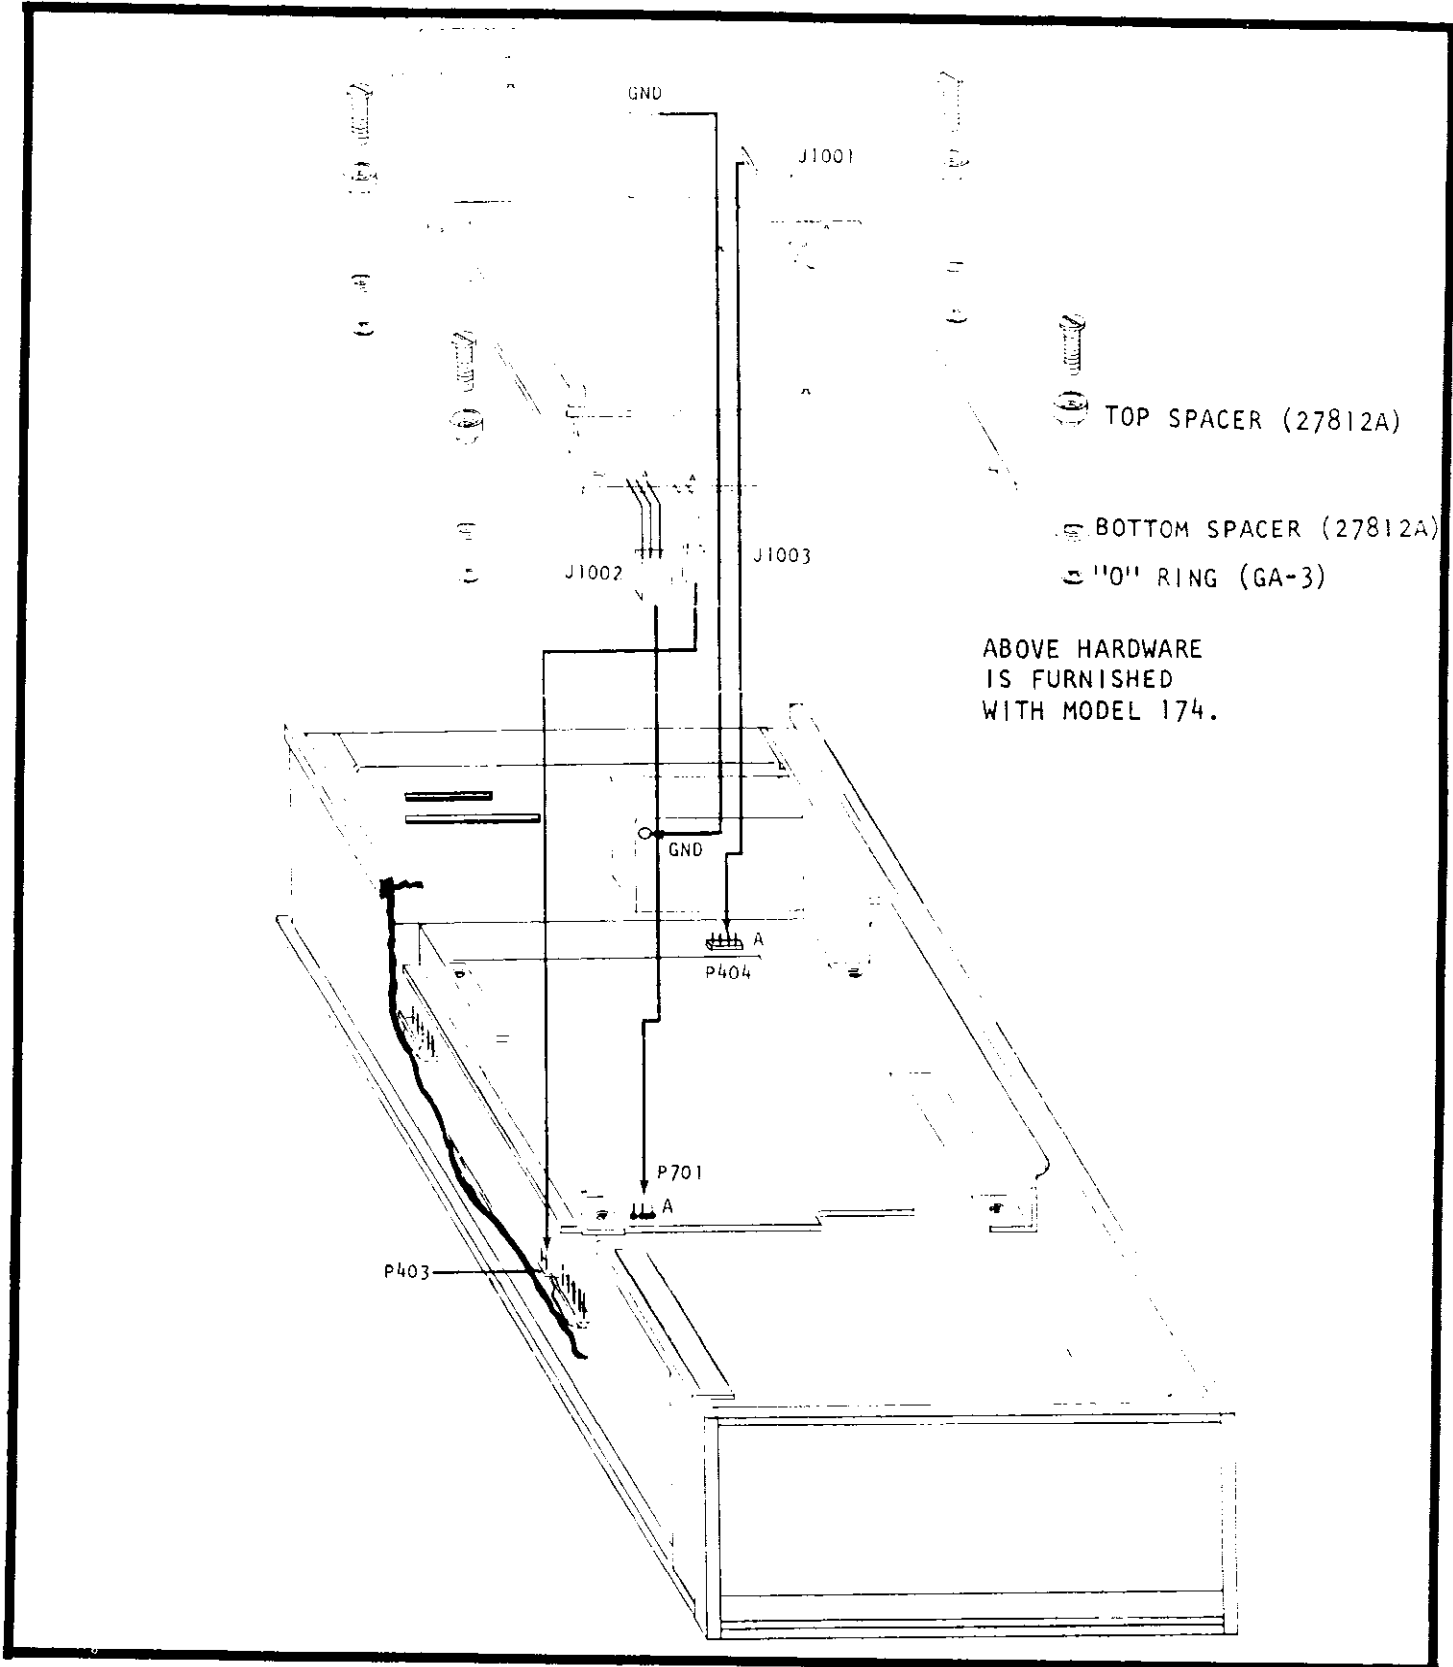

FIGURE 10. Installation of Model 1722 Digital Interface.
6. Reassemble the spacers as shown in Figure 10. Be careful to install the "O" ring over the screw to hold the assembly together prior to installing the Model 1722 board.
7. Place the Model 1722 in the location shown in Figure 10 with the cables oriented properly. See detailed view for orientation of connectors.
9. Connect the ground return wire from the Model 1722 to the screw on transformer T401 as shown in Figure 10.